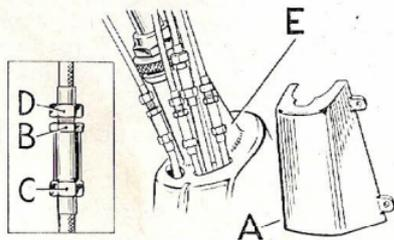

FIG. 7.
**Control Cables:**—Adjusters for all cables, *i.e.*, brakes, decompressor, “choke” and throttle, are grouped within a detachable box (*A*) mounted on the steering column (*E*) Fig. 7. To reduce slackness in a cable (*e.g.*, to adjust the brake operation) slacken the locknut (*B*), hold the body (*C*) of the adjuster and unscrew the sleeve nut (*D*) until the adjustment is correct. Tighten the locknut securely.